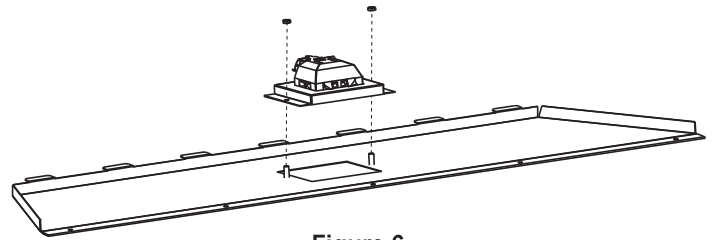

Figure 6
- Secure the light kit bracket to the inner firebox top with the two nuts removed in Step 5. See Figure 6.